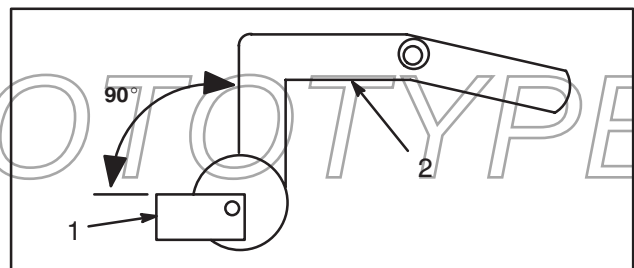

Figure 30
**IMPORTANT:** Idler retainer must be installed at an 80 to 90 degree angle to the idler mounting bracket (Fig. 30) or rider may creep with clutch pushed down.